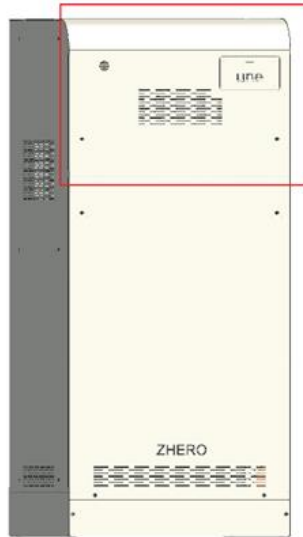

Figure 2 – ZHERO main panel
- Remove the ZHERO main panel (Fig. 2);